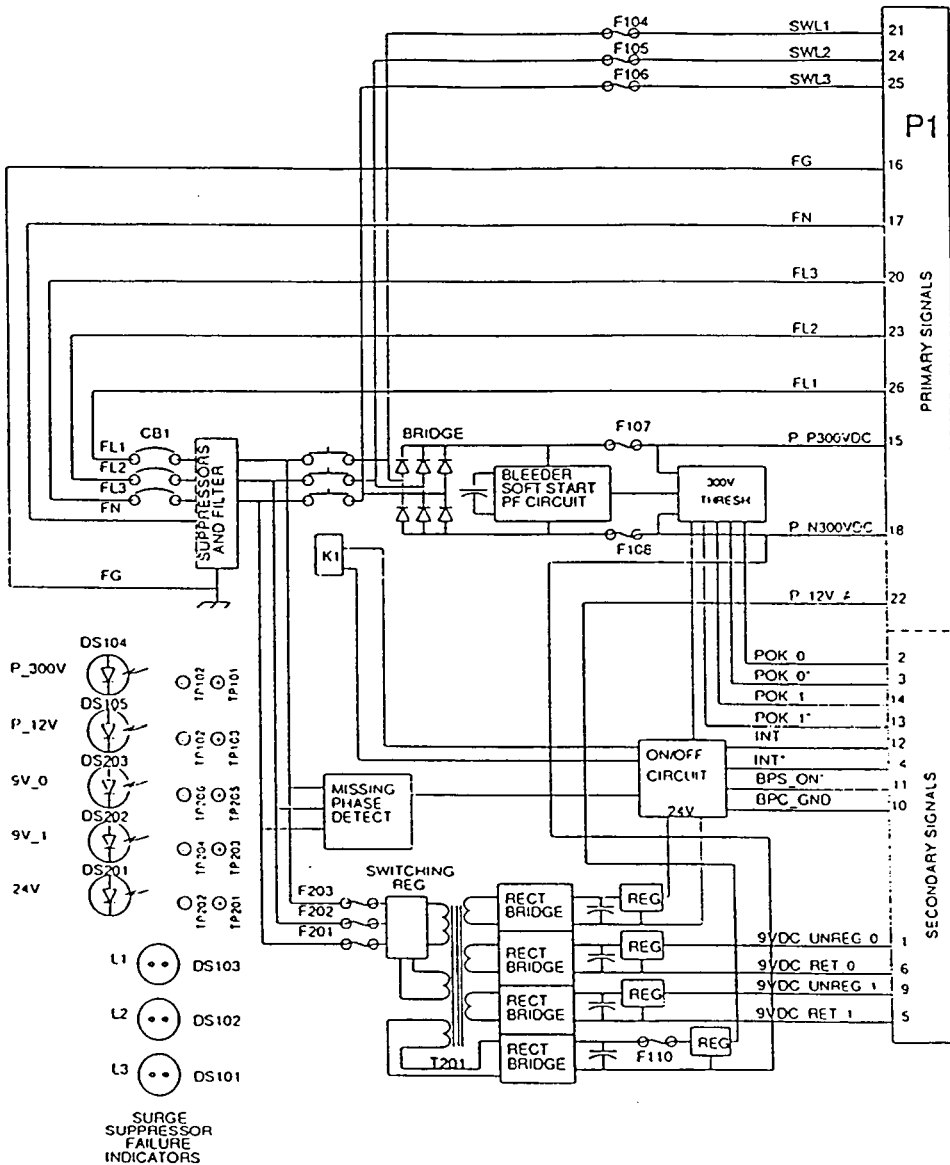

Figure 1-5
2.4 Bay Power Supply (Figure 1-5)